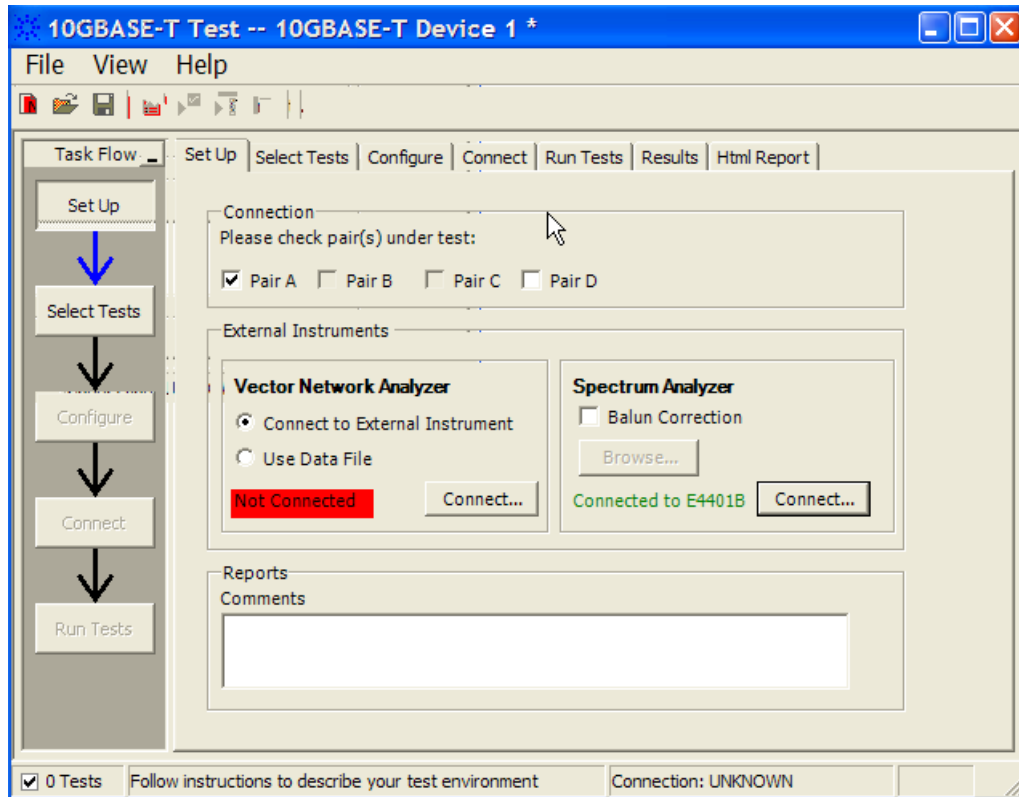

Figure 21 Setup page after application has detected the spectrum analyzer
- 9 Once the application detects the spectrum analyzer, it is indicated on the Setup page as shown in Figure 21 below.